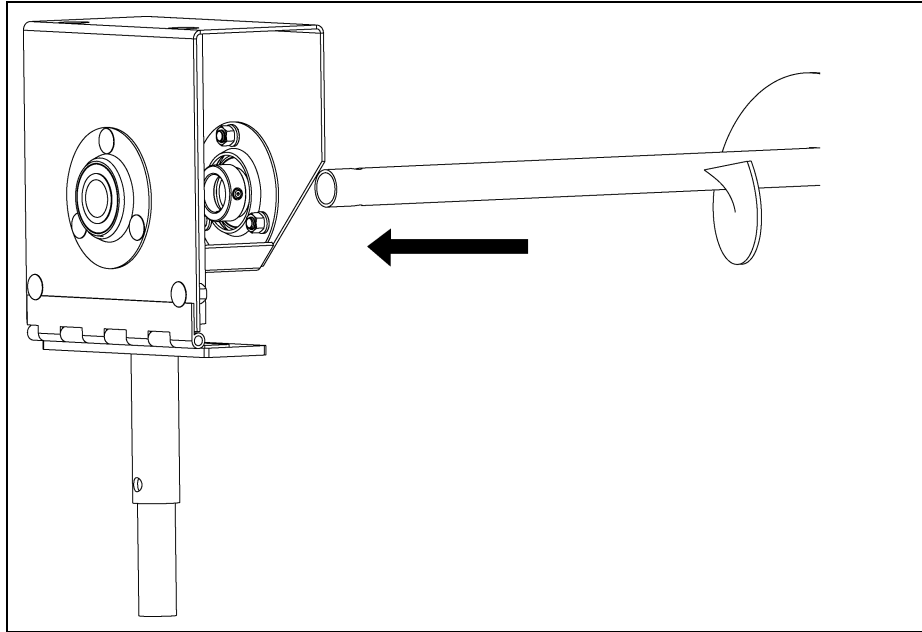

Figure 4C
Step 3: Insert auger. (See Figure 4C.)